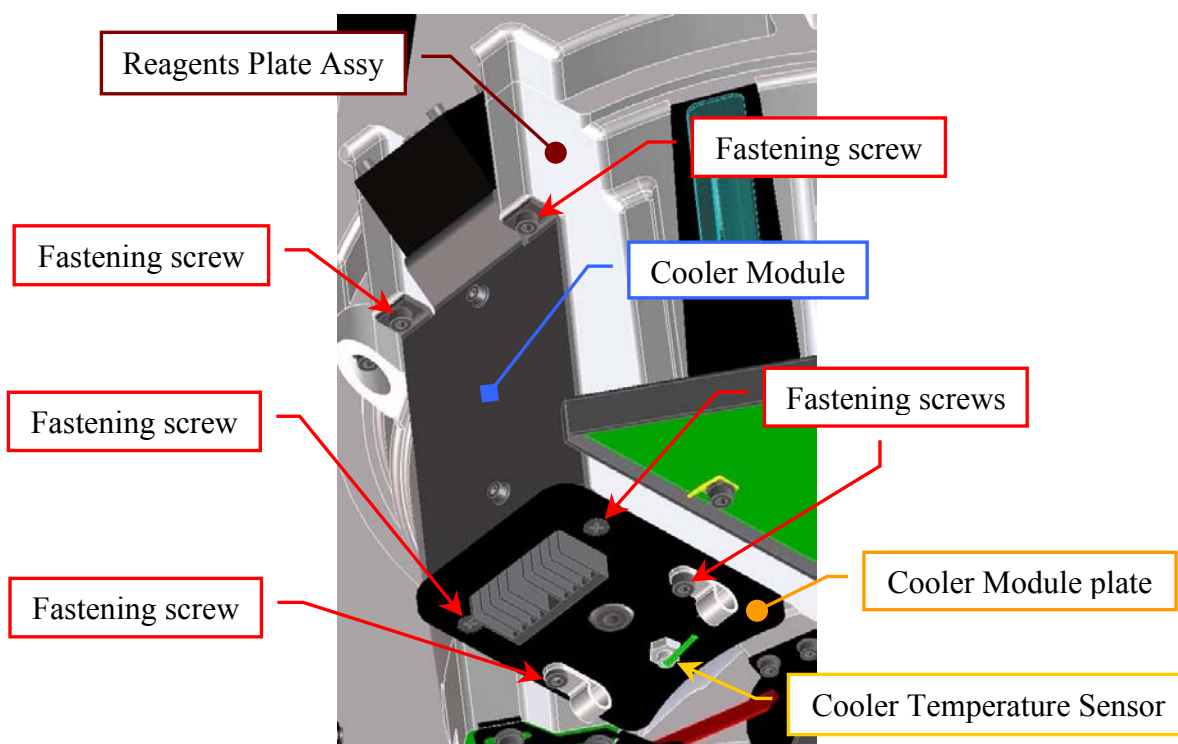

Fig. 92 – Cooler Module with Temperature Sensor [P/N: 10-02536-00] on the Reagents Plate Assy
5. Unscrew the six fastening screws of the Cooler Module with Temperature Sensor (**Fig. 92**) and take out the Cooler Module from its housing on the Reagents Plate Assy (note well: unscrewing the four fastening screw placed on the Cooler Module plate, it and the remain part of the module do not keep together).
4. Unscrew the Cooler Temperature Sensor from the plate of the relative Cooler Module with P/N: 10-02536-00 (compare the scheme MA-10-02536-00 and the **Fig. 92**).